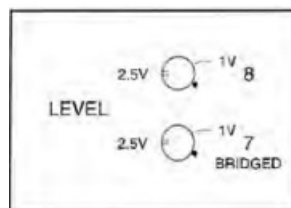

Figure 1
- When using a McIntosh Multizone Control System or Control Center set all five level controls to the 2.5V position. If a preamplifier or control center has an IV output rating, set the controls to the IV position. If an increase or decrease in amplifier sensitivity is required for other applications, set the controls as desired. Refer to Figure 1.